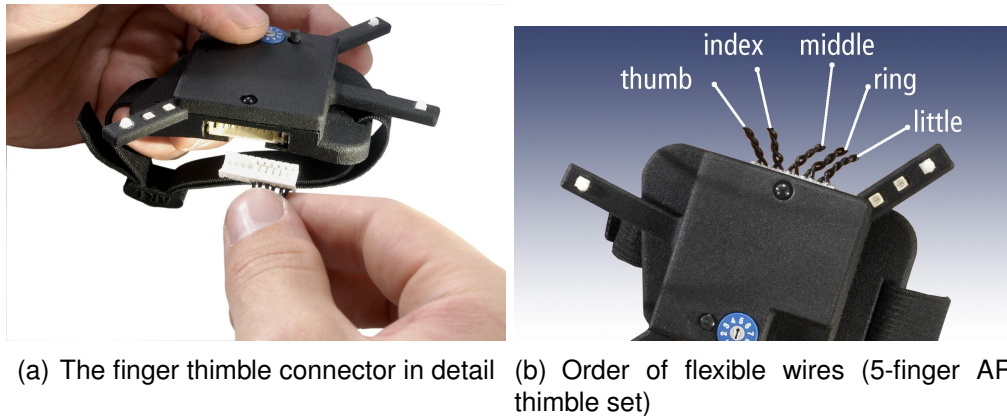

Figure 5.50: Connecting the finger thimble set to the hand unit (*Fingertracking*)
**Connecting the finger thimble set with the hand target** Just plug in the connector of the finger thimble sets into the hand target as shown in figure 5.50 on page 113. Then apply the finger thimbles to your thumb and fingers observing the order of the flexible wires shown in figure 5.48a+b on page 111.